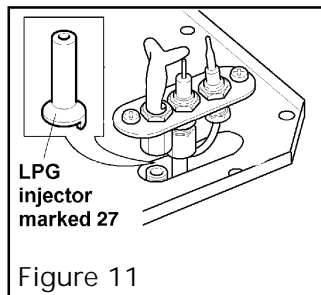

Figure 11
10. Remove the pilot injector. Replace with the LPG injector. See figure 11.